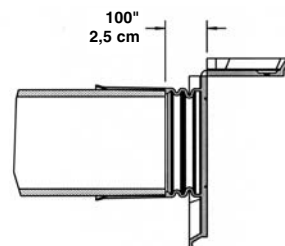

Figure 2 Figura 2 Illustration 2
2. Place sleeves over both ends of conduit, taking caution not to insert past internal stop ring, as shown in Figure 2. Conduit should not extend into the bellows section as this will prevent the sleeve from flexing. Conduit sleeves can be used in vertical forms and in forms up to 30° angle per side.